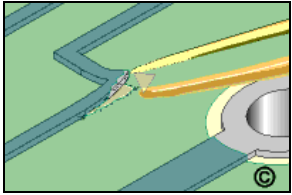

Figure 1: Cut out a piece of Bonding Film and place it under the lifted conductor.
2. Cut out a piece of Bonding Film and place it under the section of lifted conductor. (See Figure 1).